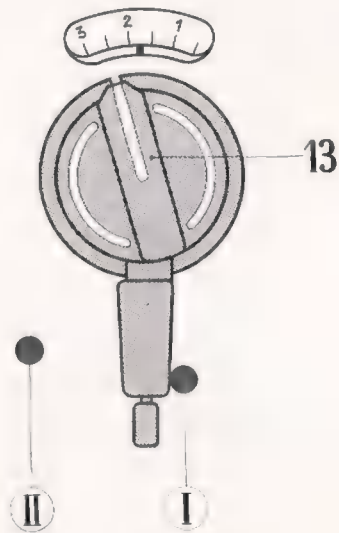

Fig. 37
6. Setting the lever 13 (Fig. 37). This lever is turned so far to the left until the *white mark* at its upper end lies opposite the white mark of the zig-zag lever 12 (Fig. 37). In this way the machine is set for buttonhole sewing.